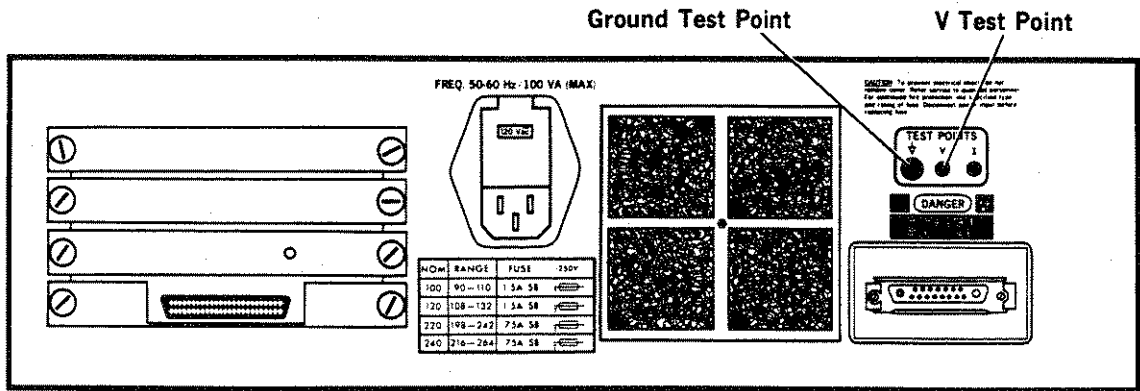

Figure 5-4. Test Point Locations
STEP 3. Connect the voltmeter to the V test point accessed through the rear panel of the 5300. Connect the ground lead of the voltmeter to the ground test point also on the rear panel. Refer to Figure 5-4.